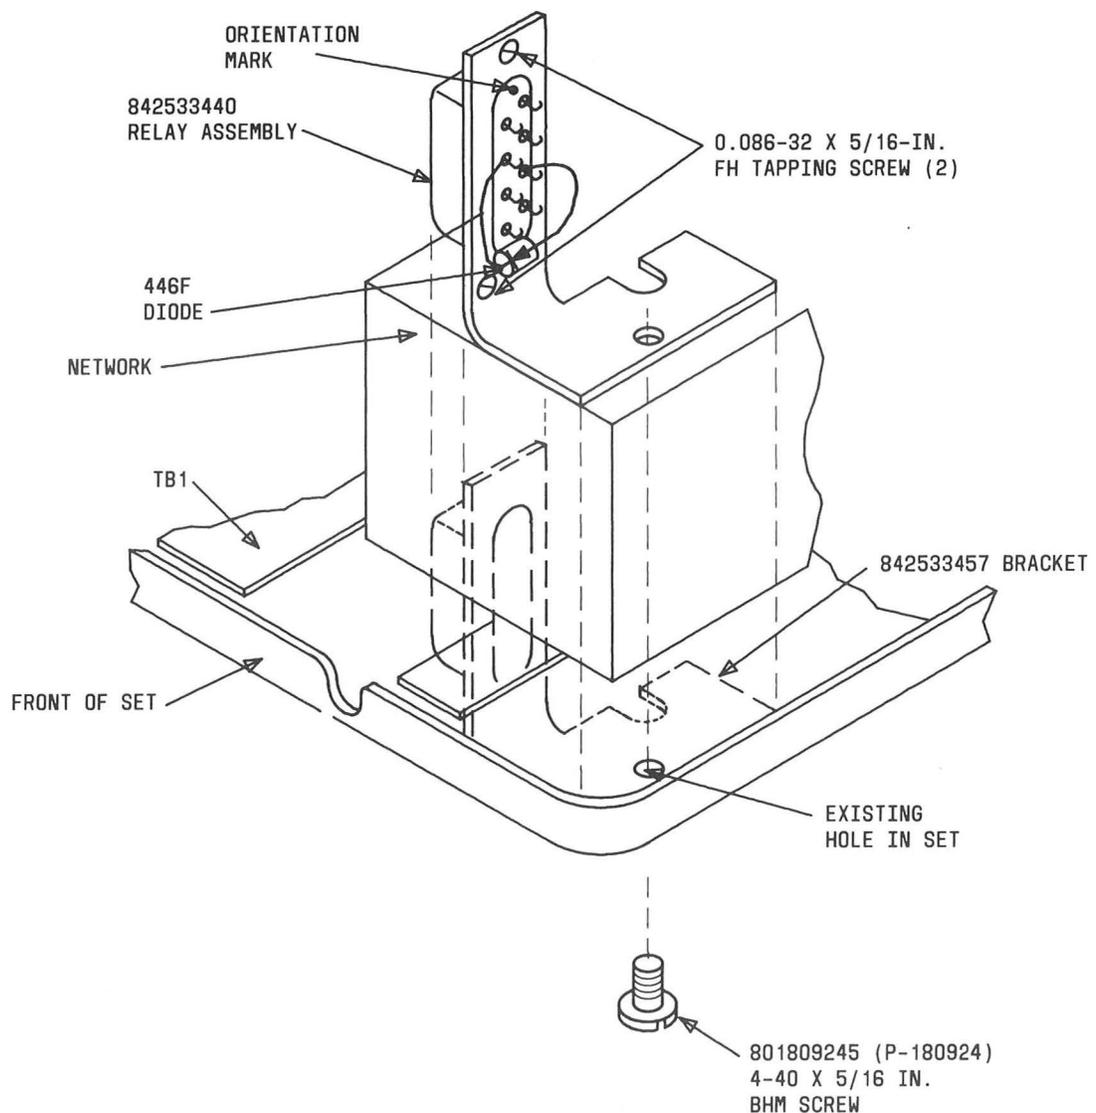
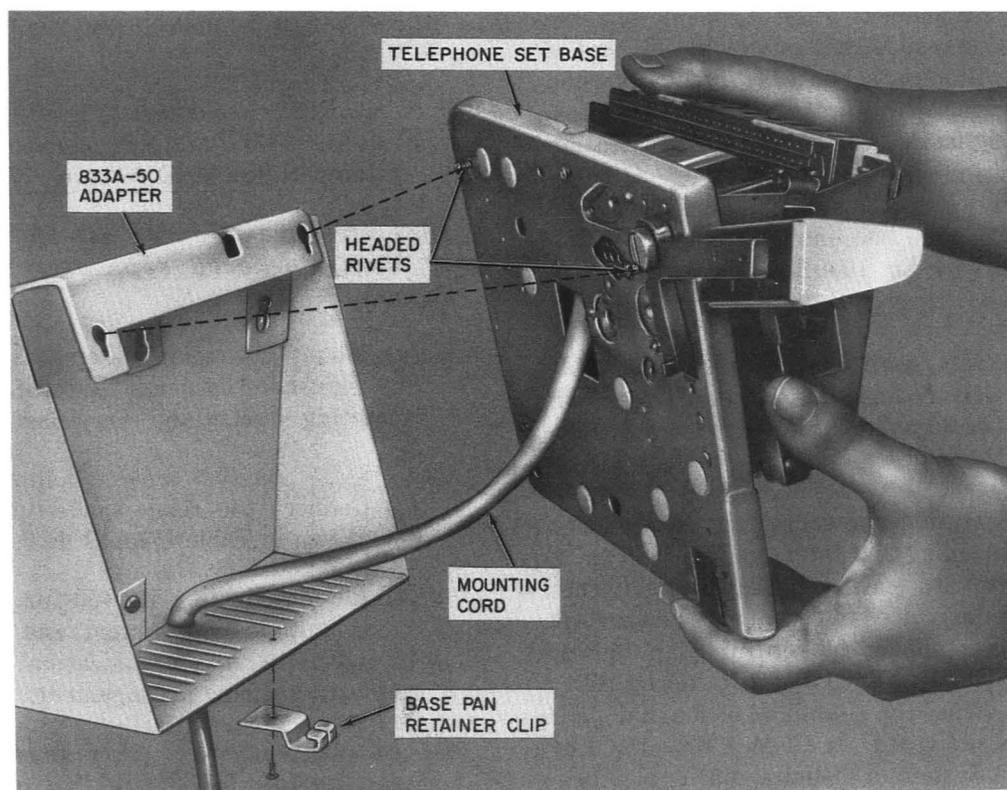

Fig. 3—Mounting Location for 4-Wire Relay Assembly
Fig. 5—Mounting Telephone Set Base Onto 833A-50 Adapter
(1) Mount the adapter to the wall or vertical surface as shown in Fig. 3, using appropriate fasteners (Section 080-720-105). If the mounting cord is to be dressed down the wall, it is necessary to pass the cord through the notch in the adapter before final attachment of the adapter to the wall (Fig. 5). If the cabling enters through the wall, the mounting cord may be contained within the adapter.
(2) Remove faceplate and housing from telephone set.
(3) Hang the telephone set on the adapter from the headed rivets that protrude from the base pan (Fig. 5).
(1) Mount the relay assembly in the front right-hand corner of the telephone set using mounting bracket and screws as shown in Fig. 3.